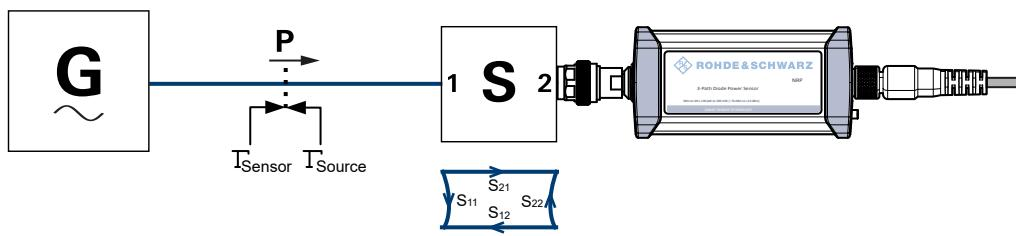

Figure 9-3: Correction of interactions between the power sensor, the signal source, and the S-parameter device
The interaction between the complex reflection coefficient Γ_{sensor} of the power sensor and the reflection of port 2 is expressed by S_{22} , see Figure 9-3. If the S-parameter correction is enabled, this interaction is always considered, regardless whether gamma correction is performed or not.
- S-parameter device if the S-parameter correction is enabled, S11 in Figure 9-3.